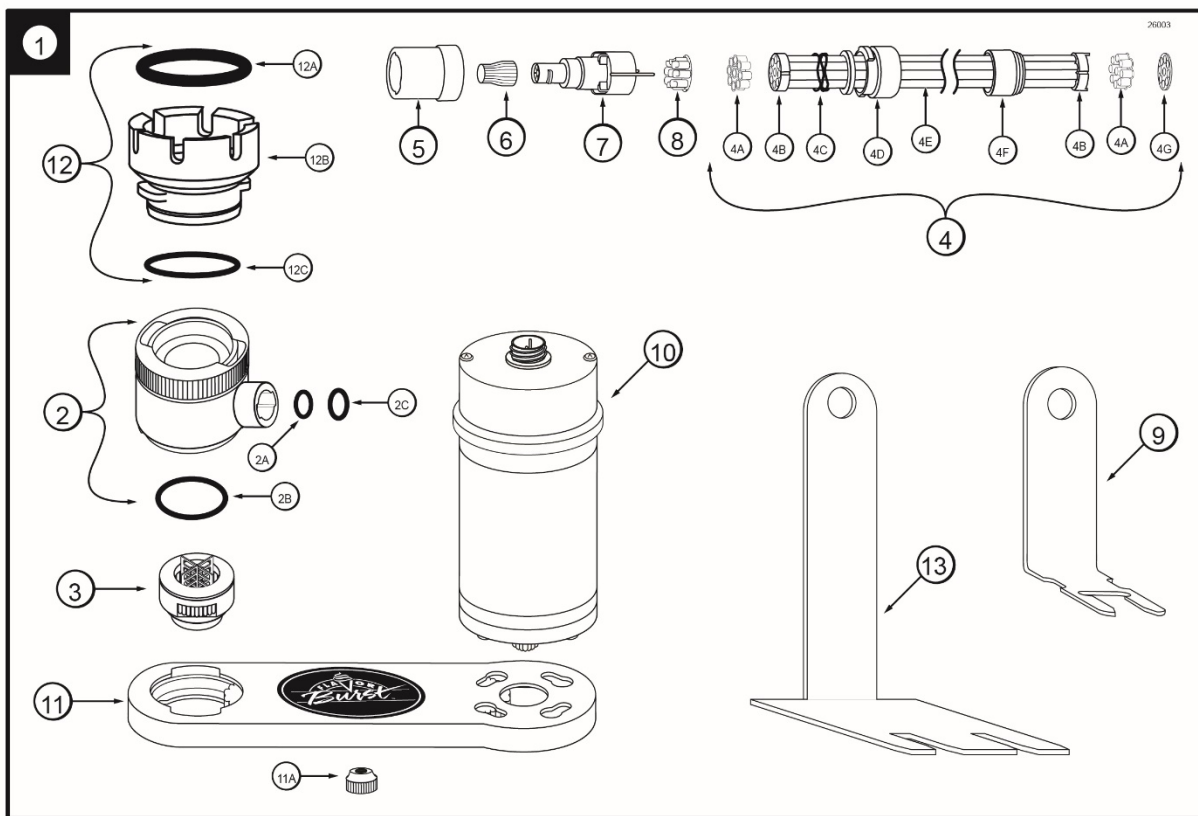

Figure 3
**Blending Assembly and Related Parts (See Figure 3)**